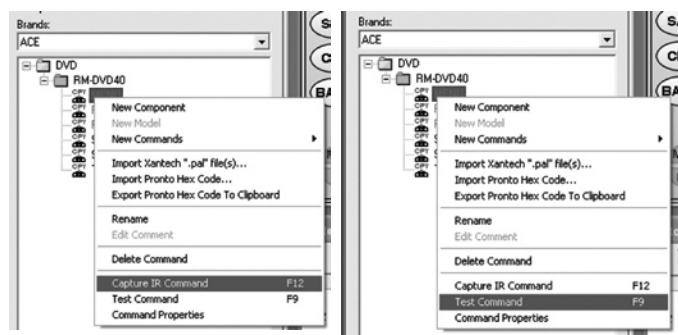

Figure 20 Capture IR (or press F12)      Figure 21 Test IR (or press F9)
7. Next, left-click the desired command and press **F12** (or right-click and then click "Capture IR Command"). Refer to Figure 20. An "IR Command Capture" pop-up will next appear.